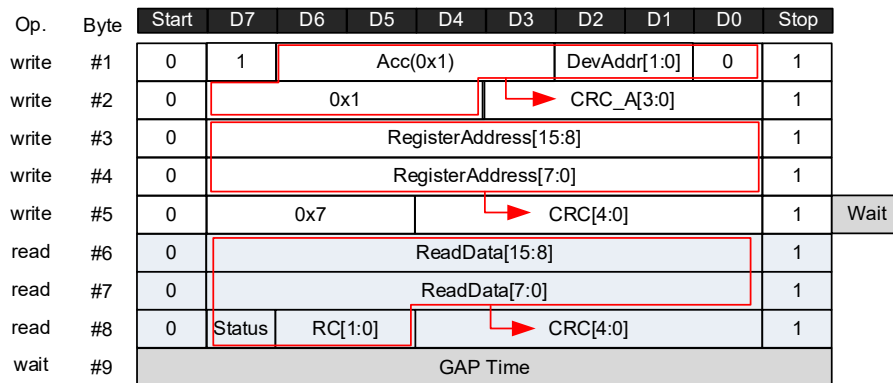

Figure 52. Register read mode frame
- 16-bit register read (Figure 52)
Figure 52 shows the Read Frame structure where: